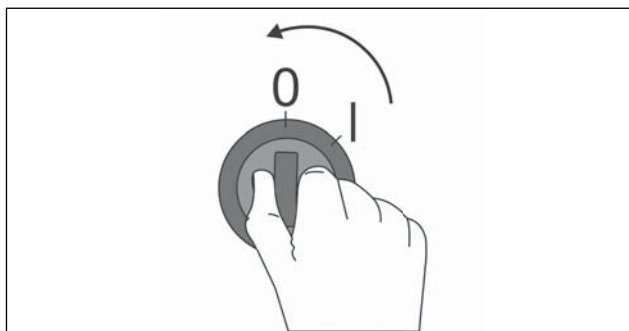

Fig. 12.1
2. Turn off power (Fig. 12.1).
An emergency shutdown is carried out by turning off power (Fig. 12.1).